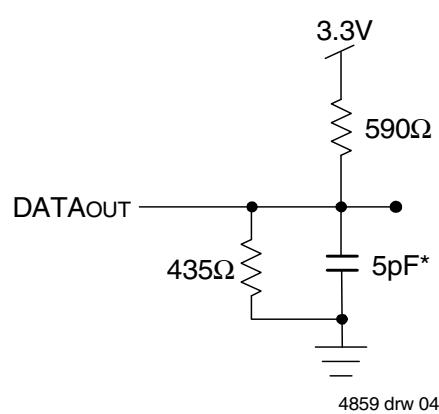

Figure 2. Output Test Load
1. Transition is measured 0mV from Low or High-impedance voltage with the Output Test Load (Figure 2). This parameter is guaranteed by device characterization, but is not production tested.
3. All input signals are synchronous with respect to the clock except for the asynchronous Output Enable (OE),  $\overline{FT}/PIPE_R$ , and  $\overline{FT}/PIPE_L$ .
1. Transition is measured 0mV from Low or High-impedance voltage with the Output Test Load (Figure 2).
3. Transition is measured 0mV from Low or High-impedance voltage with the Output Test Load (Figure 2).